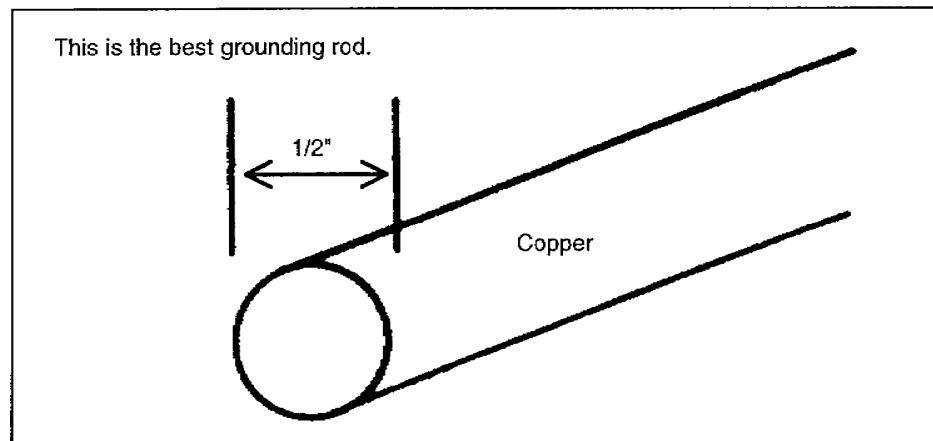

Figure 1-2. Copper grounding rod
a. The best grounding rod (electrode) is made of copper (nonferrous metal) and is at least 1/2 inch in diameter (Figure 1-2).